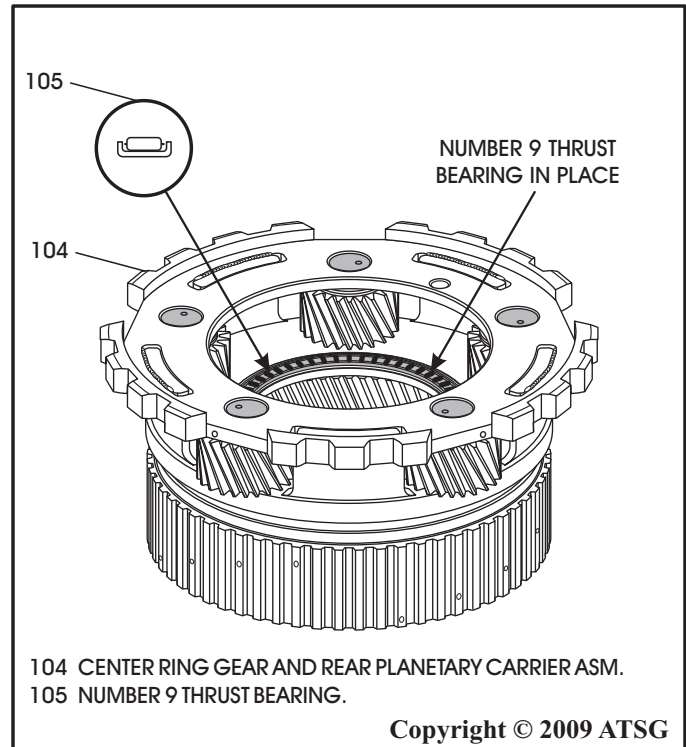

Figure 220
58. Install the number 9 thrust bearing on the back side of the center ring gear and rear planetary carrier assembly, as shown in Figure 220, with needles facing up and retain with Trans-Jel®.